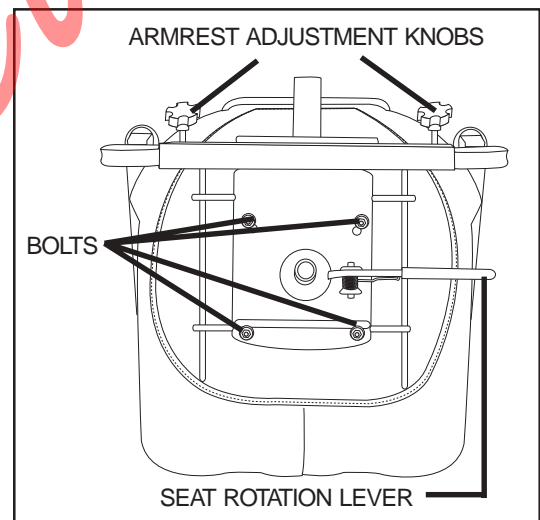

Figure 11. Seat Adjustments
1. Pull up on the seat rotation lever to unlock the seat. See figure 11.
1. Loosen the armrest adjustment knobs at the back of the seat frame. See figure 11.
2. Remove the four bolts that fasten the seat to the seat platform. See figure 11.